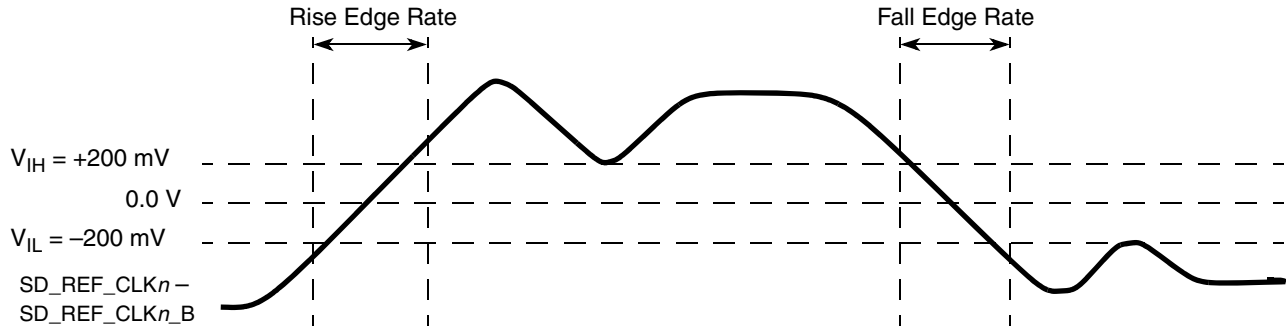

Figure 42. Differential Measurement Points for Rise and Fall Time
- Measured from –200 mV to +200 mV on the differential waveform (derived from SD\_REF\_CLKn minus SD\_REF\_CLKn\_B). The signal must be monotonic through the measurement region for rise and fall time. The 400 mV measurement window is centered on the differential zero crossing. See Figure 42.